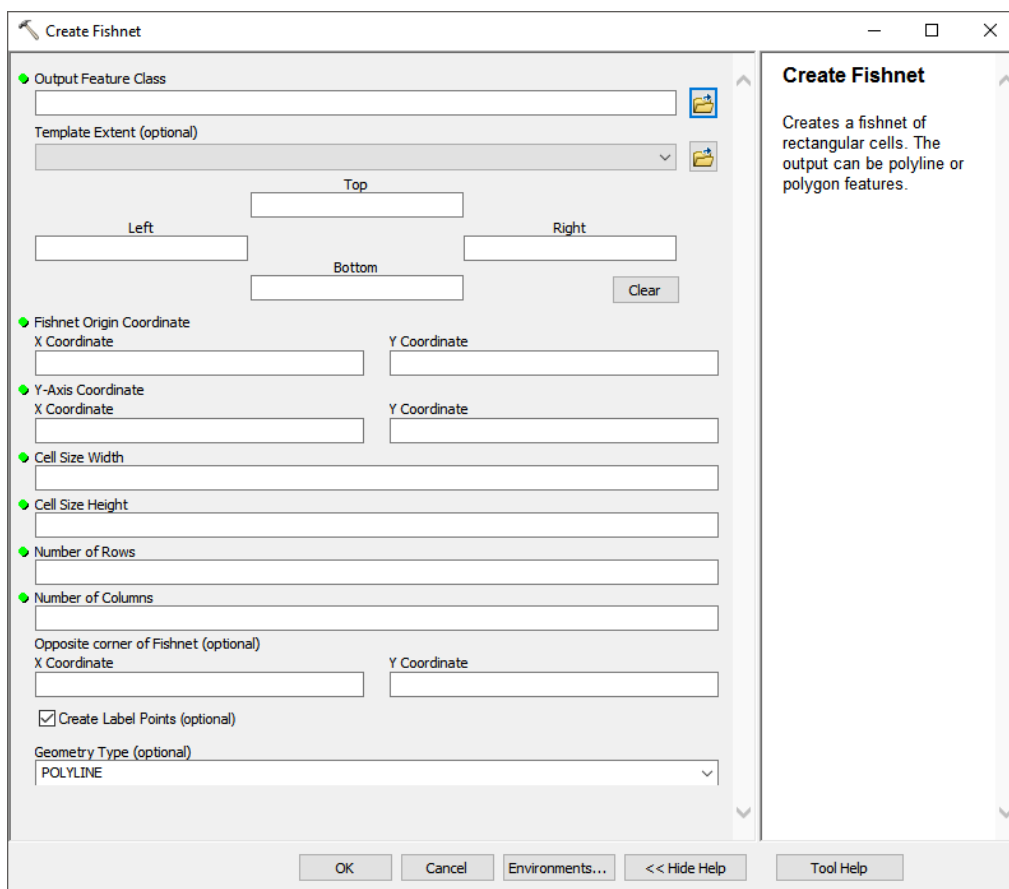

Figure 7: Screenshot of the Esri® ArcMap™ tool “Create Fishnet (Data Management)”.
- Open the tool ‘Create Fishnet (Data Management)’ whether by navigating through the toolbox or by using the Search. Figure 7 shows a screenshot of the ‘Fishnet’ tool.